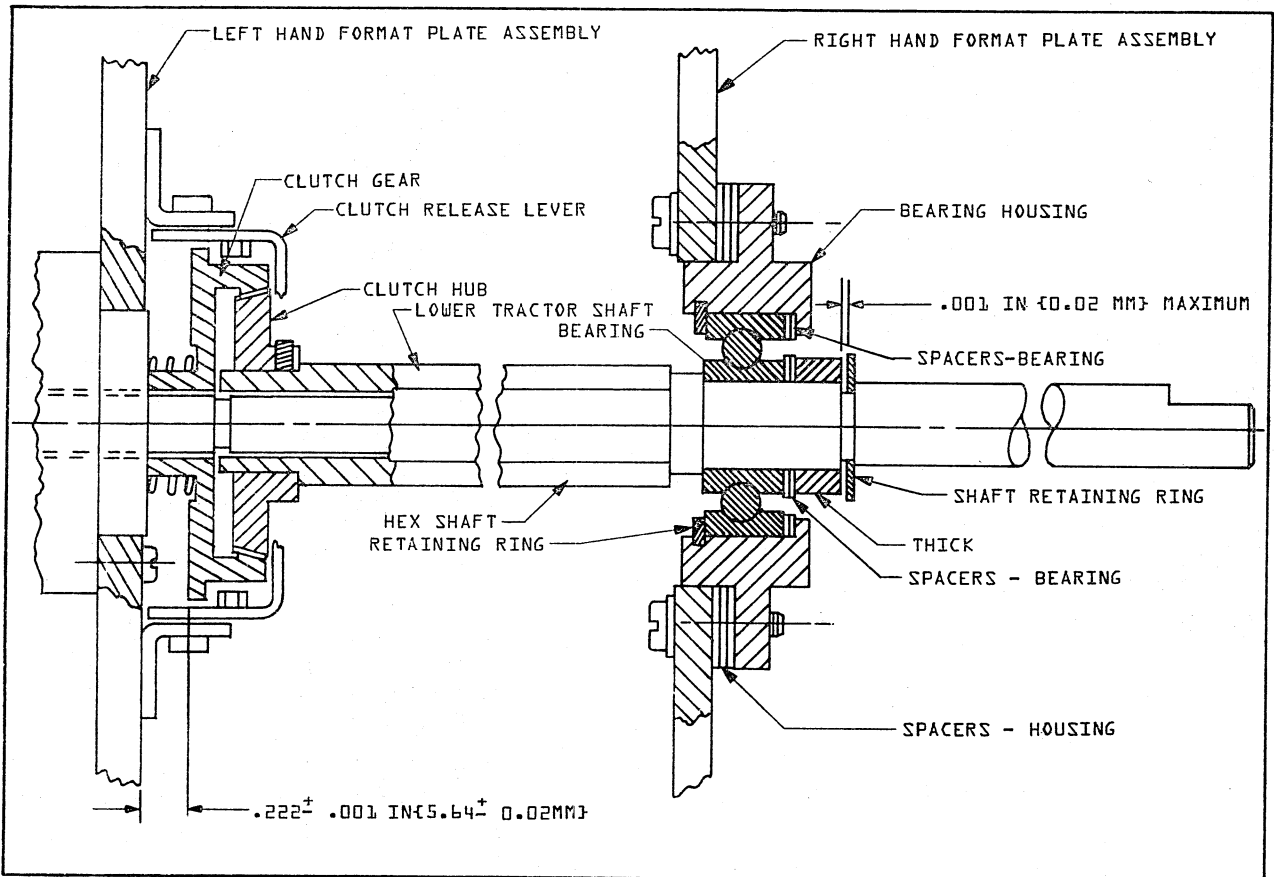

FIGURE 7-7. PAPER FEED ASSEMBLY
Tests (Figure 7-7)
1. Tractor Drive Shaft And Bearing End Play (Figure 7-7)
2. Clutch Hub Engagement (Figure 7-7)
Adjustments (Figure 7-7)
1. Tractor Drive Shaft And Bearing End Play Adjustments (Figure 7-7)
2. Clutch Hub Engagement Adjustment (Figure 7-7)
- a. Add or remove spacers between the right hand format plate assembly and the bearing housing until the clutch gear engages and disengages the clutch hub properly (Figure 7-7). This can be accomplished by shimming the bearing housing so that the distance between the left hand format plate assembly and the clutch gear is $.222 \pm .001$ in. (5.64 ± 0.02 mm).